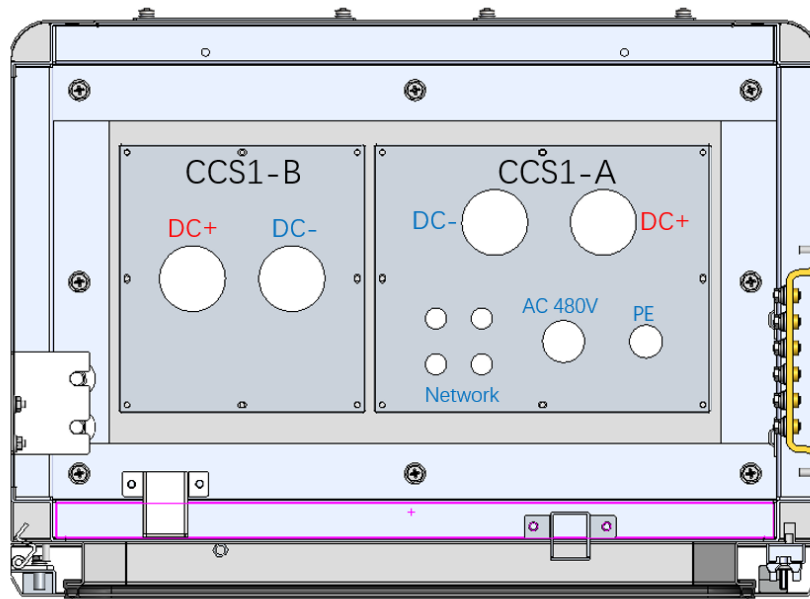

Figure 19 Cable inlet holes at the bottom of user unit
(5) The cables are led in from the bottom of the user unit, and the cable inlet holes at the bottom of cabinet are shown in Figure 19, and then they will be connected to the corresponding cable terminals.